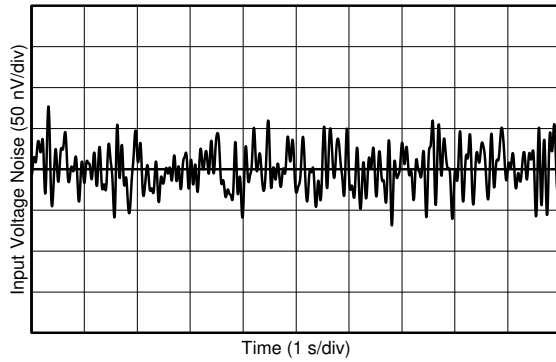

Figure 6-15. 0.1-Hz to 10-Hz Noise
0.1-Hz to 10-Hz Noise	Figure 6-15